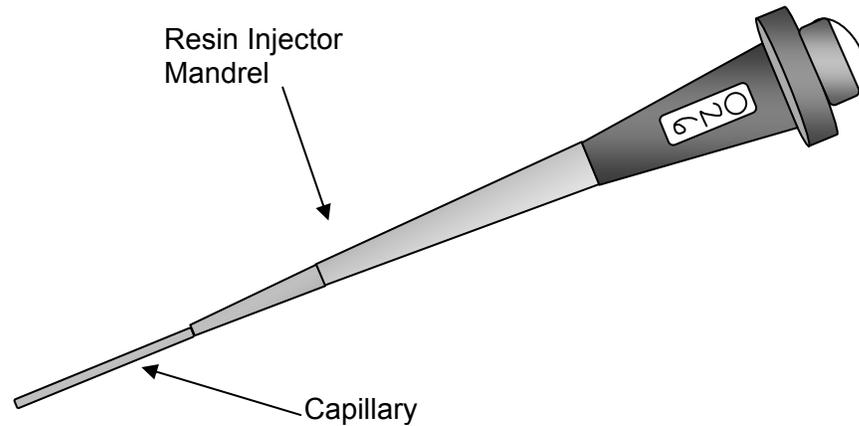

Figure 7-28 – Installing the Capillary onto the Resin Injector Mandrel
Step 6 - Push the new capillary over the piston until it locks into position on the resin injector mandrel. See Figure 7-28.